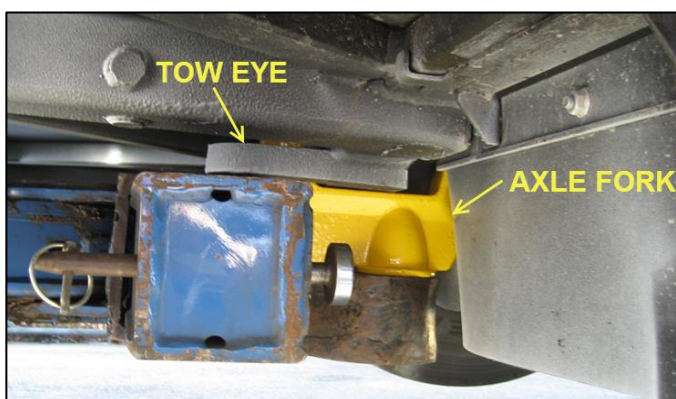

FIGURE 36
4. Adjust fork holder's position and hand guide the forks into each front tow eye. (Figure 36)
5. Lift the tow bar until the axle forks fit snugly into the front tow eyes (Figure 36).